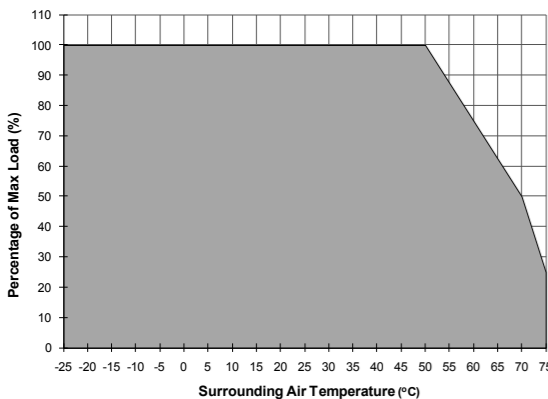

Figure 6
5.4. Thermal behavior (Fig. 6)
Operating temperature (surrounding air temperature)	-25°C to +75°C (Refer to Fig. 6)